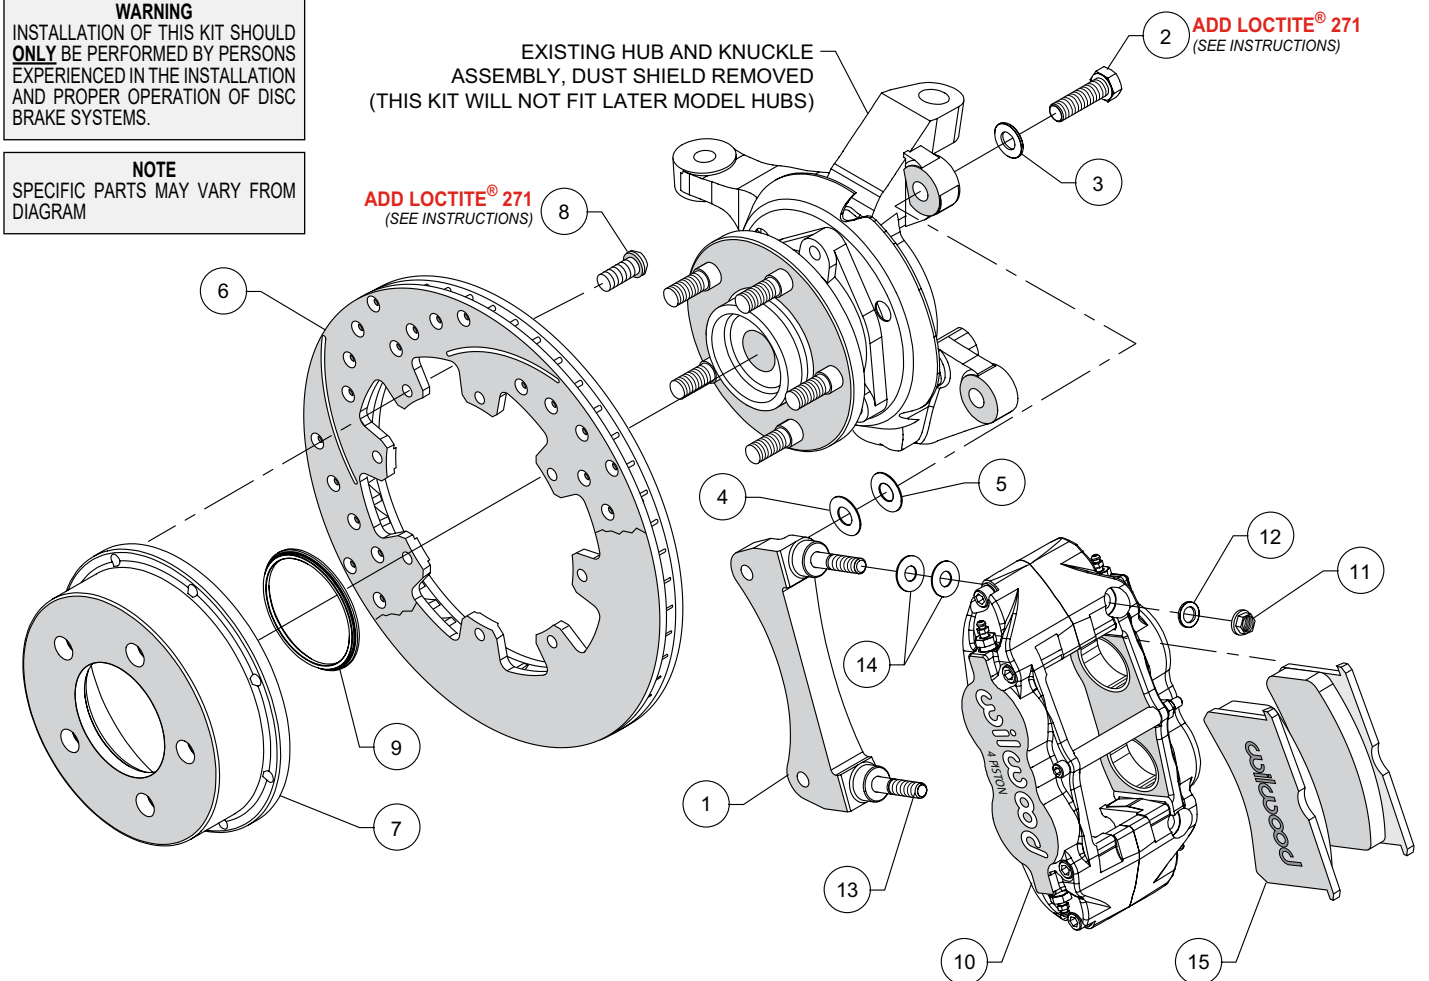

Figure 1. Typical Installation Configuration
NOTE: Numbers in parenthesis refer to the parts list and Figure 1 on the preceding pages.
- The caliper mount bracket (1) should initially be installed with clean, dry threads on the mounting bolts. Orient the bracket as shown in Figure 1 and Photo 1 and install using bolts (2) and washers (3). Initially place two .033" thick shims (5) on each bolt between the bracket and upright, Figure 1. Temporarily tighten the mounting bolts. **NOTE:** The bracket must fit squarely against the mount bosses on the upright. Inspect for interference from casting irregularities, machining ridges, burrs, etc. Later, after the caliper alignment has been checked, the mount bolts will be secured using red *Loctite*® 271.
- Orient the rotor (6) and the hat (7) as shown in Figure 1 and Photo 2. Attach rotor to hat using bolts (8). Using an alternating sequence, apply red *Loctite*® 271 to the threads, and torque to 25 ft-lbs.
- Slide the rotor registration adapter (9) onto the axle register on the axle hub with the smaller O.D. facing outward, Photo 3.
- Initially place two .035" thick shims (14) on each stud (13) as shown in Figure 1 and Photo 6. Mount the caliper (10) onto the bracket (1) using lock nuts (11) and washers (12), Figure 1. Temporarily tighten the lock nuts and view the rotor through the top opening of the caliper. The rotor should be centered in the caliper, Photo 7. If not, adjust by adding or subtracting shims (4 and/or 5) between the bracket and the upright. Always use the same amount of shims on each of the two mounting bolts. Once the caliper alignment is correct, remove the bracket mounting bolts one at a time, apply red *Loctite*® 271 to the threads, and torque to 60 ft-lb.
- Remove the caliper center bridge pad retainer bolt, nut, and tube from the caliper. Insert the brake pads (15) into the caliper, with the friction material facing the rotor, as shown in Photo 8. Check that the top of the brake pad is flush with the outside diameter of the rotor, Photo 9. If not, adjust by adding or subtracting shims (14) between the caliper and the bracket. After the caliper pad height is set, torque the caliper lock nuts (11) to 30 ft-lb. Secure the brake pads in place with the center bridge pad retainer tube, bolt, and locknut. The locknut should be snug without play in the bolt or tube. Be cautious not to over tighten.